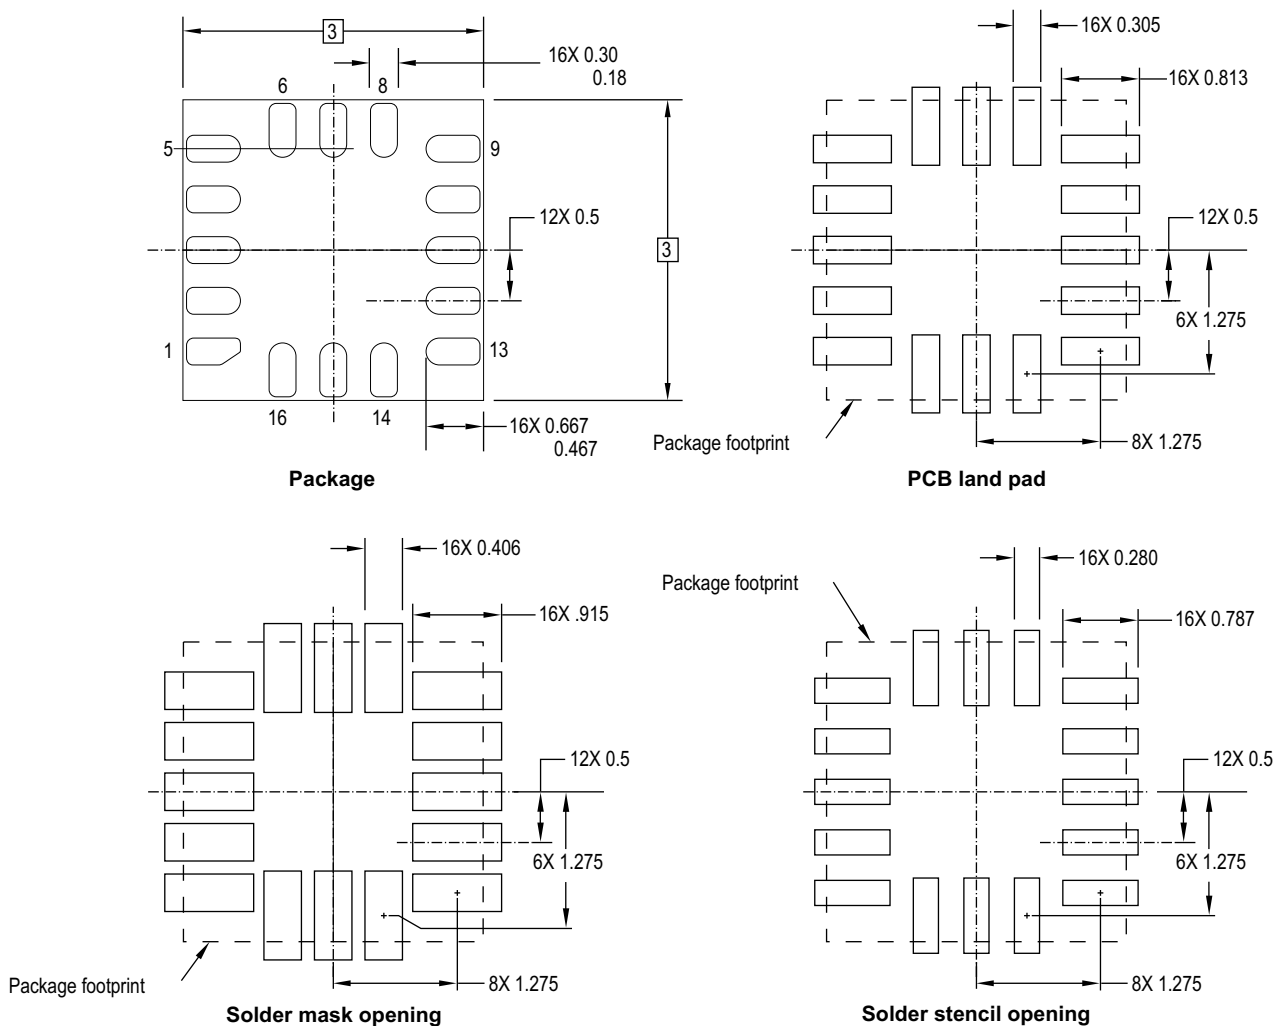

Figure 14. Footprint
The following recommendations are a guide to an effective PCB layout. See Figure 14 for footprint dimensions.
1. Do not solder down Exposed Pad (EP) under the package to minimize board mounting stress impact to product performance.
2. PCB landing pad is 0.813 mm x 0.305 mm as shown in Figure 14.
6. The solder mask should not cover any of the PCB landing pads, as shown in Figure 14.